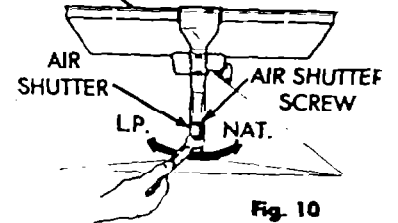

Fig. 10
**Oven/broiler burner** — Fig. 10, 11: Use a screwdriver to loosen the air shutter screw. Adjust the flames and retighten the screw.